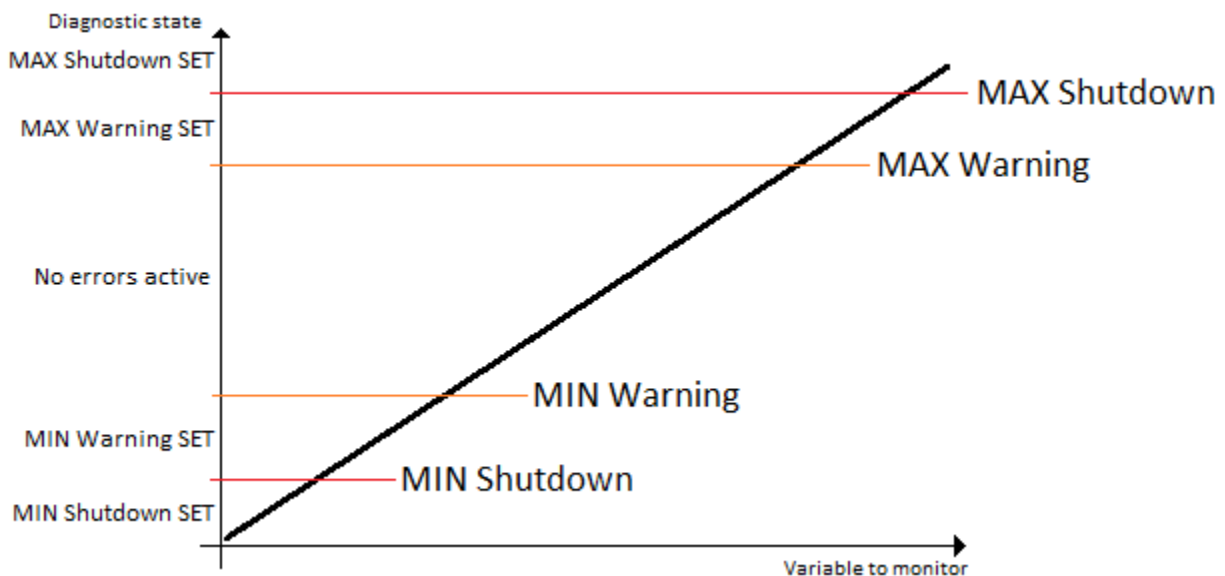

Figure 3 – Double Minimum and Maximum Error Thresholds
**Double minimum and maximum error** lets user to specify four thresholds, each with independent diagnostic parameters. The diagnostic status and threshold values is determined and expected as show in Figure 3 below.